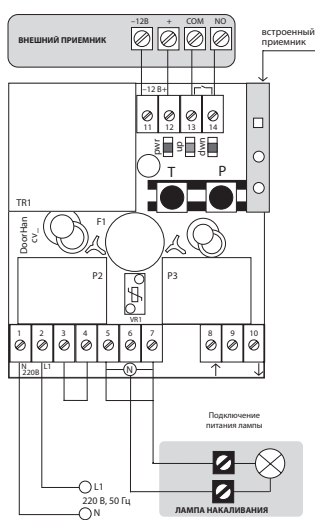

Fig. 1 Example of lighting and external radio control connection diagram (to DoorHan CV01)
3. Connect wiring according to the diagram (Fig. 1 and 2).
When installing the device, protect it from dust and moisture. When connecting equipment wires, if possible, use mounting holes from the side of the terminal block (not on the top). Before connecting, pierce the rubber plugs using an awl or a thin screwdriver (Fig. 1) so that the diaphragm fits tightly the inserted wires.